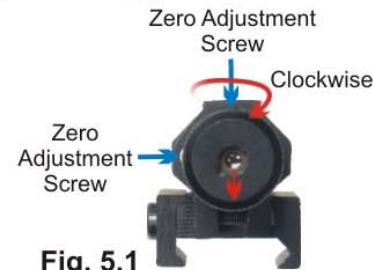
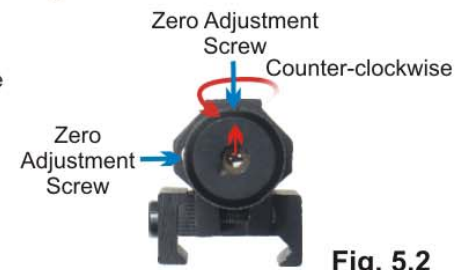

Fig. 5.1
Fig. 5.2
- Stabilize the firearm and fire a test shot. If the impact point of the bullet is exactly in the center of the target, then the Laser Sight is zeroed. Otherwise, it needs to be adjusted based on the bullet impact. Use Allen wrench C on the Zero Adjustment Screws. Turn the screw clockwise will push the beam away from the screw side (Fig. 5.1). Turn the screw counter-clockwise will move the beam toward the screw side (Fig. 5.2). Either screw can be used for windage or elevation adjustment depending on how the laser is mounted.